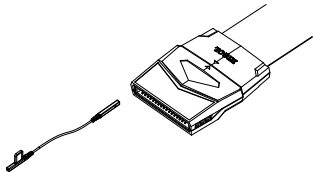

图 1
- ◆ 方法一：用户可通过前端引线单独连接各个被测信号。通过前端引线上的通道标示以及探头前端上的颜色信息可方便地识别每个信号所对应的通道号，如图 1 所示。
- ◆ Method 1: users can connect the signals under test through the probe leads separately. You can easily identify the corresponding channel of each signal by the channel label on the probe leads and the color information on the probe head as shown in Figure 1.